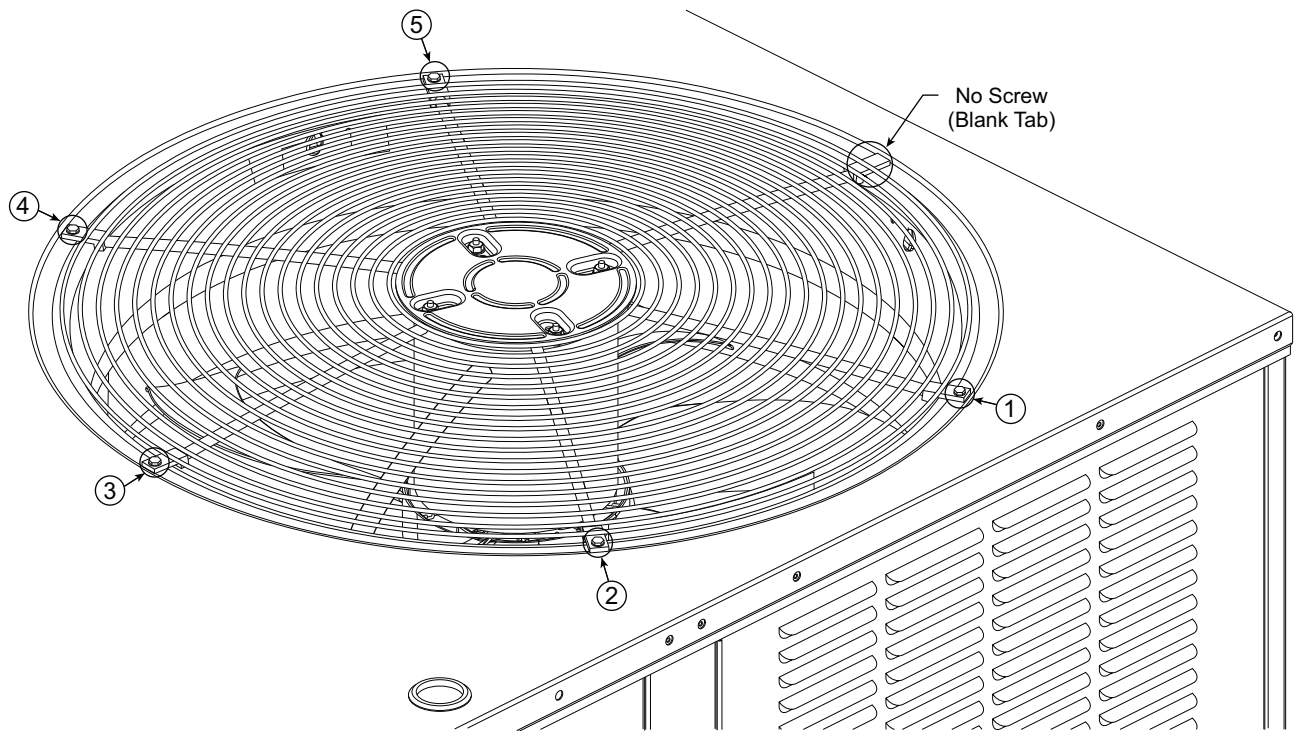

Fig. 32 — Condenser-Fan Assembly — Screw Pattern Sequence
6. Replace condenser-fan assembly. When replacing the condenser-fan assembly follow the screw pattern sequence shown in Fig. 32. The screws must be replaced in the sequence shown in the figure.